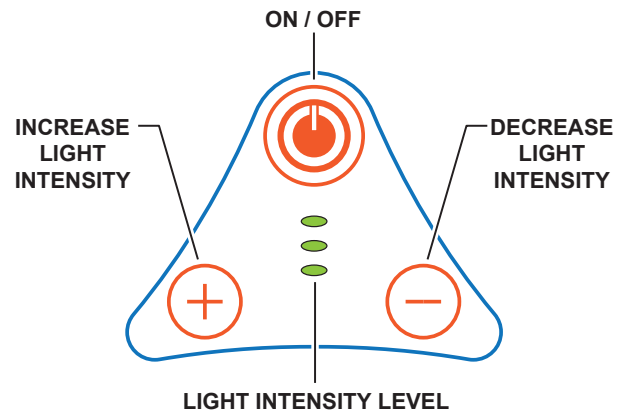

Figure 5. Control Pad
4. Press and hold the ON/OFF button on the control pad to turn the light on (Figure 5).